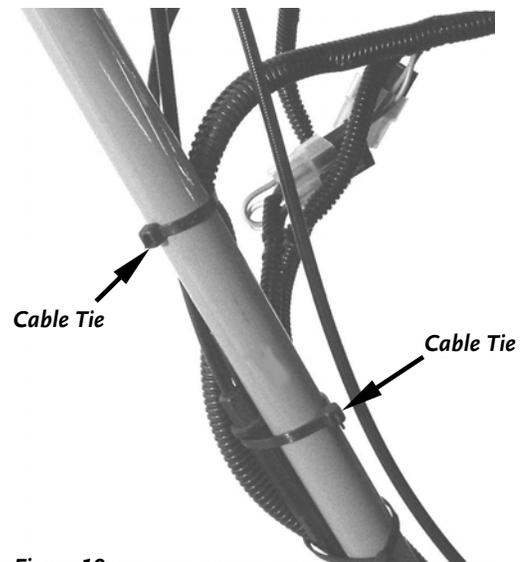

Figure 19
11. Secure the upper portion of the Wire Harness to the handlebar frame using the plastic Cable Ties provided (**Figure 19**).